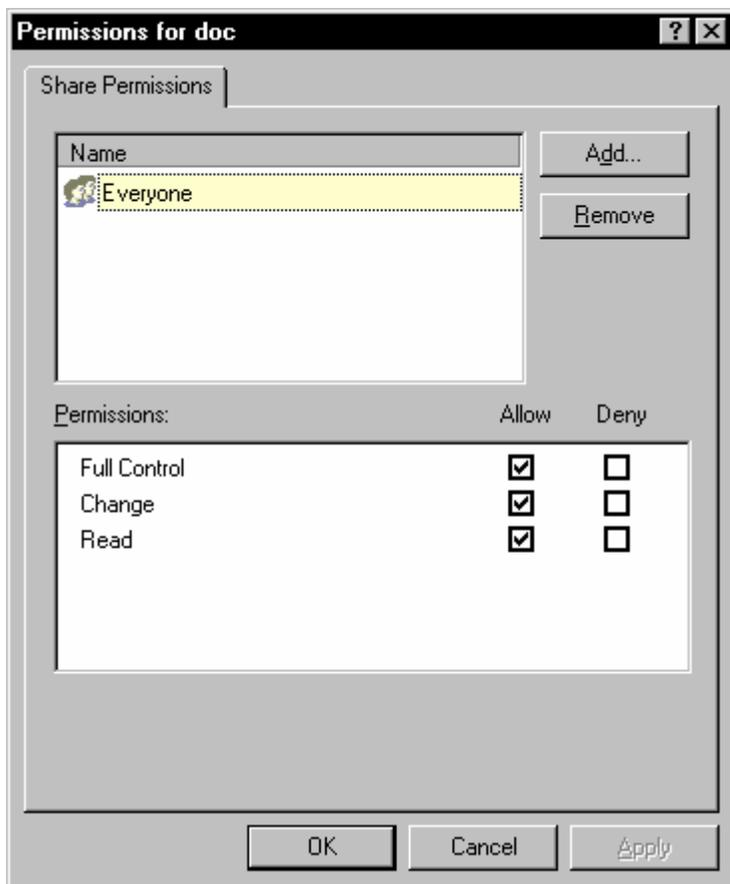

Fig. 11-3
5. Select **Everyone**, and then click **Remove**. (Fig. 11-3).